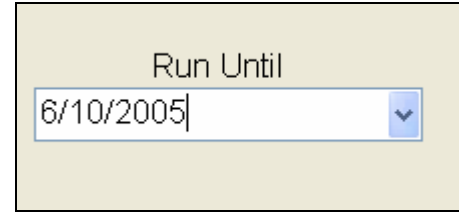

Figure 17.1.10
- Enter a date that you want this sequence to run until (Figure 17.1.10).